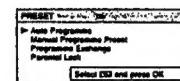

Fig. 3.
- Select **»Preset«** with **△** or **▽** and press **OK**. The PRESET menu appears. (See Fig. 3.)